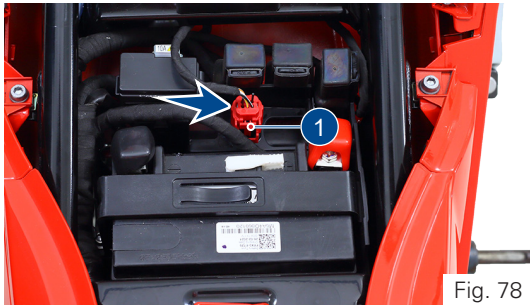

Fig. 78
- Gently pull out connector along with its cap from its location by releasing the lock (1) (ref. Fig. 78).